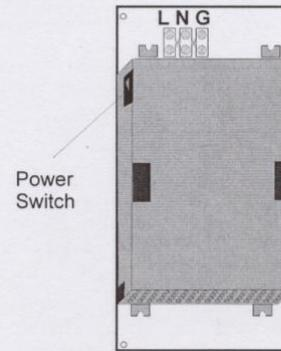

Figure 4: Power Supply Assembly
- 2 Install the appropriate wires into the AC terminal block, as shown in Figure 4, and tighten the screws to 5 - 7 in-lbs.